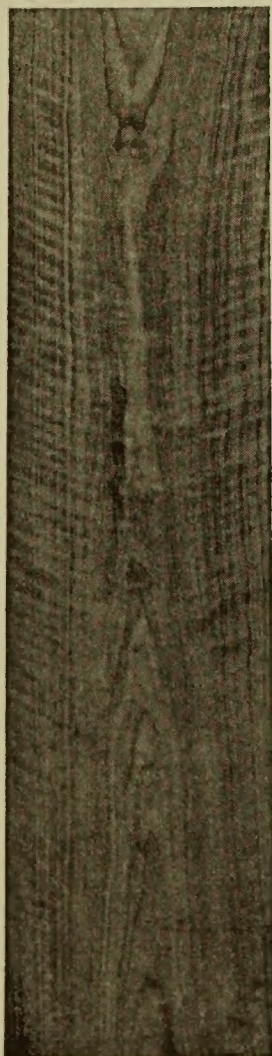

Fig. 3
### A. Sliced (Fig. 3).
Sliced Walnut (Fig. 3):—
- (b) Semi-figured longwood (graded and certified). (Fig. 3).